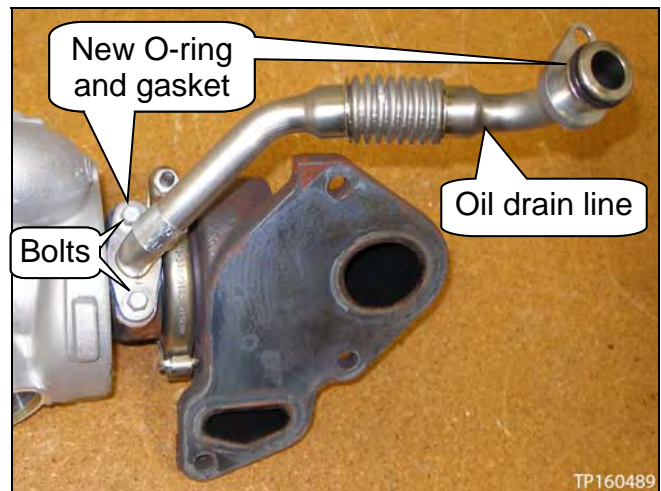

Figure 58
2. Install the oil drain line (see Figure 58).